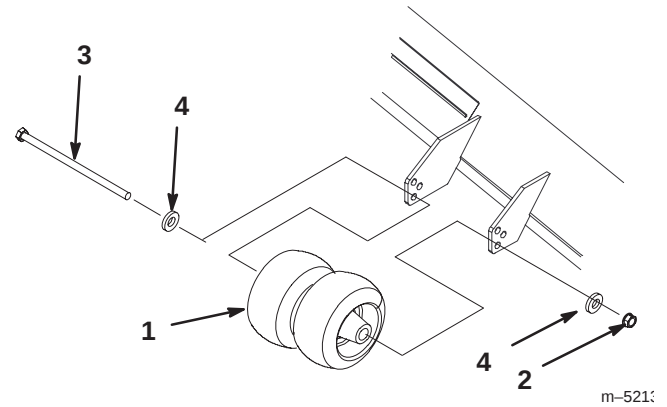

Figure 16
1. After adjusting height-of-cut, remove bolt, washers and nut (Fig. 16).
2. Select a hole position so the gage wheels are a minimum of 3/8 in. (9 mm) off the ground for the height-of-cut to be used (Fig. 16).
3. Reinstall the bolt, washers and nut (Fig. 16).